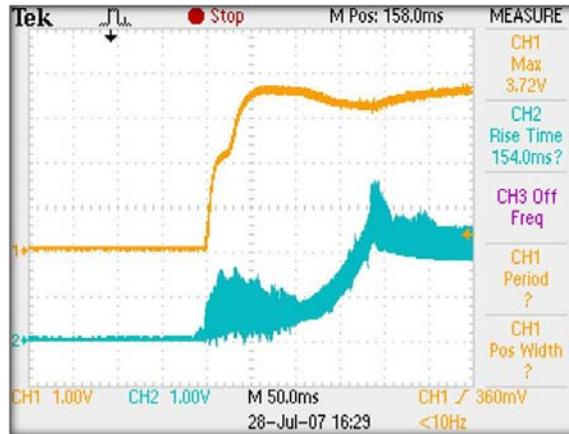

Figure 127: Incorrect kV-mA Rise Curve (Filament too cold)
- If the kV-mA rise curve appears as in Figure 127, then the filament may be too cold. If the red LED's have come on, reset the control board by disconnecting and reconnecting it from the 65V power supply. Increase the Pre-Heat by turning W2 counter-clockwise slightly.